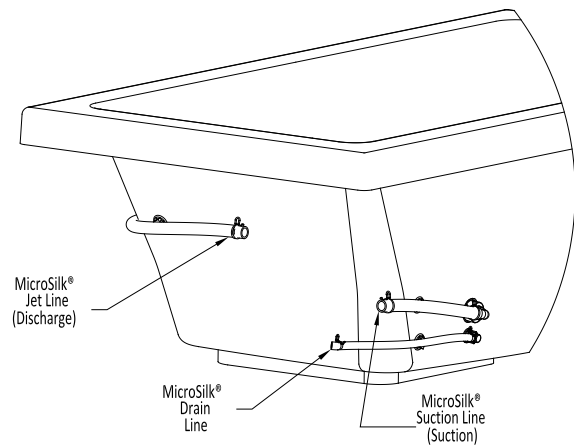

Figure 2
3. Do not disconnect the plumbing lines that are secured to the bath with nylon tie straps (**Figure 2**).